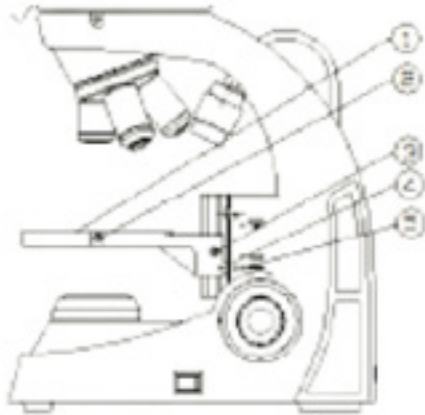

Fig. 24
Put the plate (1) into the holder and use a hexagonal wrench to lock the screw (2) . Adjust coarse focusing wheel to lift the holder to the top position, loose the screw (3) to move the holder, and then lock when marks (4) and (5) are horizontally aligned. (See Fig.24)